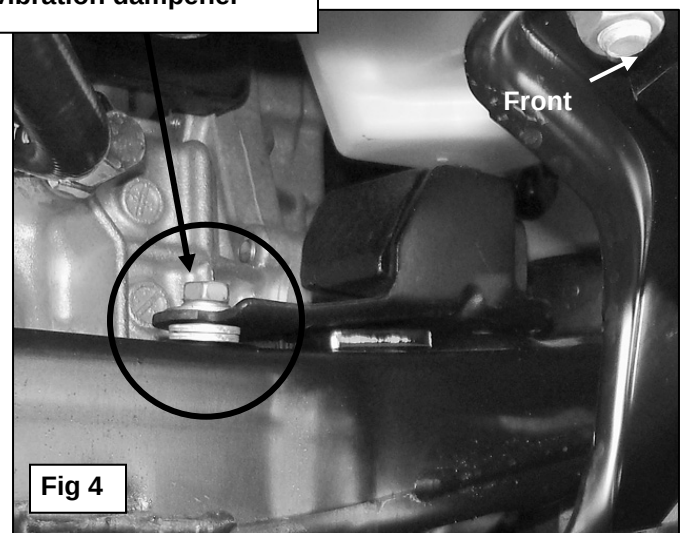

Fig 4
3. Locate the driver side factory vibration dampener on top of the cross member, (**Figure 4**). The vibration dampener covers a mounting location for the driver side Support Bracket. Temporarily remove the dampener from the top of crossmember. **IMPORTANT:** Pay close attention to how the dampener is mounted to the crossmember as it will be reinstalled.
- a. **Driver Side Support Bracket Installation:** Insert (1) 12mm x 90mm Bolt Plate down through the crossmember from the top, (**Figures 3A & 3B**). Re-install the vibration dampener over the Bolt Plate using the factory hardware. **NOTE:** Use the included 8mm Flat Washers on the factory hex bolts for spacers between the dampener and the crossmember as required for proper Bolt Plate clearance, (**Figure 4**). Rotate the lock tab on the Bolt Plate for proper fit between the crossmember and dampener. Select the driver side Support Bracket. Attach the end with the bent tab to the Bolt Plate with the included (1) 12mm x 32mm STD Flat Washer and (1) 12mm Nylon Lock Nut, (**Figure 5**). Do not tighten hardware at this time.